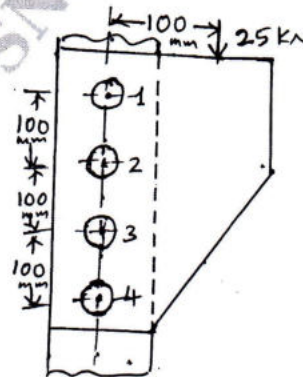

Fig.Q7(b)
b. A bracket attached to a vertical column by means of four identical rivets, is subjected to an eccentric force of 25 kN as shown in Fig.Q7(b). Determine the diameter of rivets, if the permissible shear stress is 60 N/mm2.